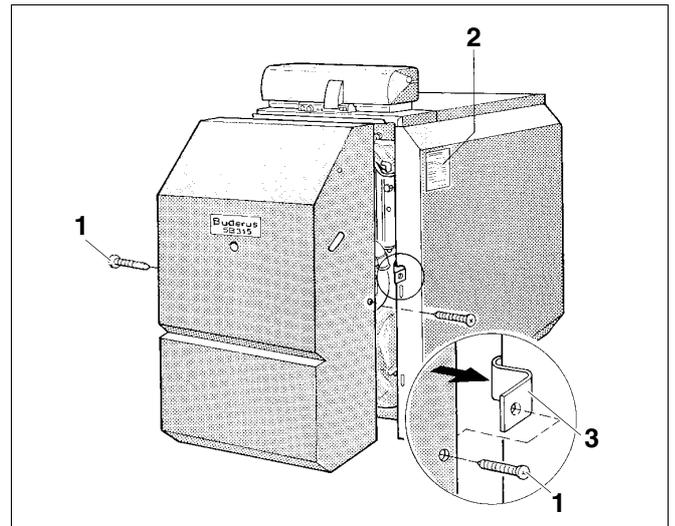

Fig. 26 Install the burner hood SB315 VM
- Insert the angled snap nuts on the l.h. and r.h. side into the cut-out provided in the side panel angle (Fig. 26).
- Hook the burner hood into the angle of the front boiler cover (Fig. 26).
- Insert the locking bolts on the r.h. and l.h. side through the burner hood into the angled fixing (Fig. 26).
**Position the data plate according to boiler location on top of the r.h. or the l.h. side panel (Fig. 26).**
- If fitted, unscrew the locking bolts from the burner hood and remove the hood, see Fig. 26, page 23.
- Hook the burner hood into place and secure with locking bolts, see Fig. 26, page 23.